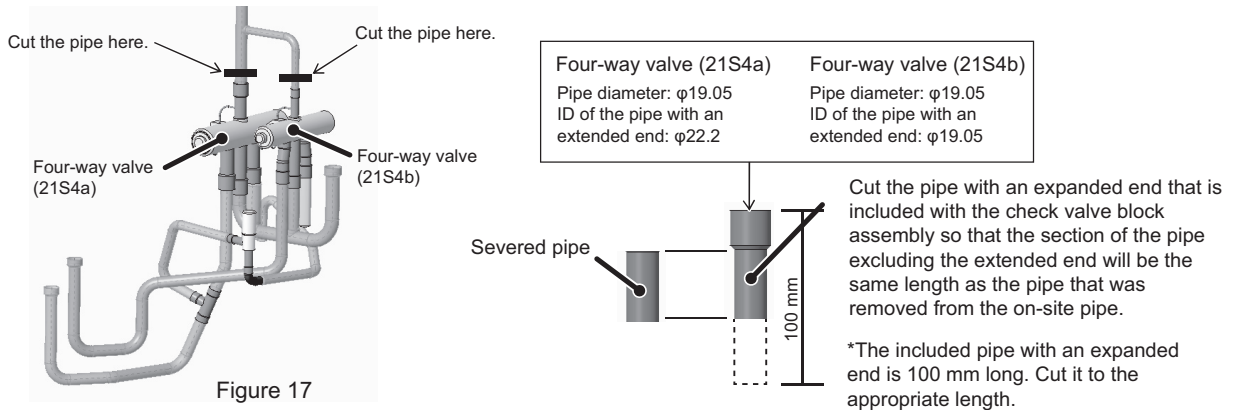

Figure 17
(17) To make it easier to connect four-way valves (21S4a and 21S4b), cut the pipes above four-way valves (21S4a and 21S4b) with a pipe cutter. Cut the pipe with an expanded end that is included with the check valve block assembly to the same length as the pipe that was removed from the on-site pipe. (See Figure 17.)